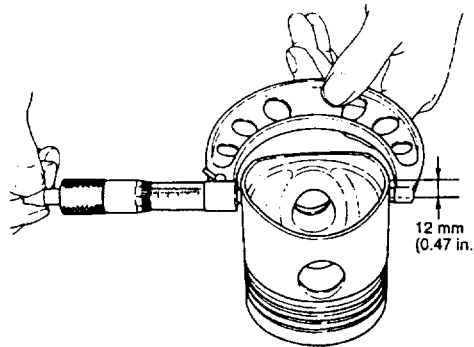

Figure 6-44 Checking piston O.D.
- (b) Measure piston O.D. across the piston pin approx. 12 mm (0.47 in.) from the bottom end of the piston (see Figure 6-44).